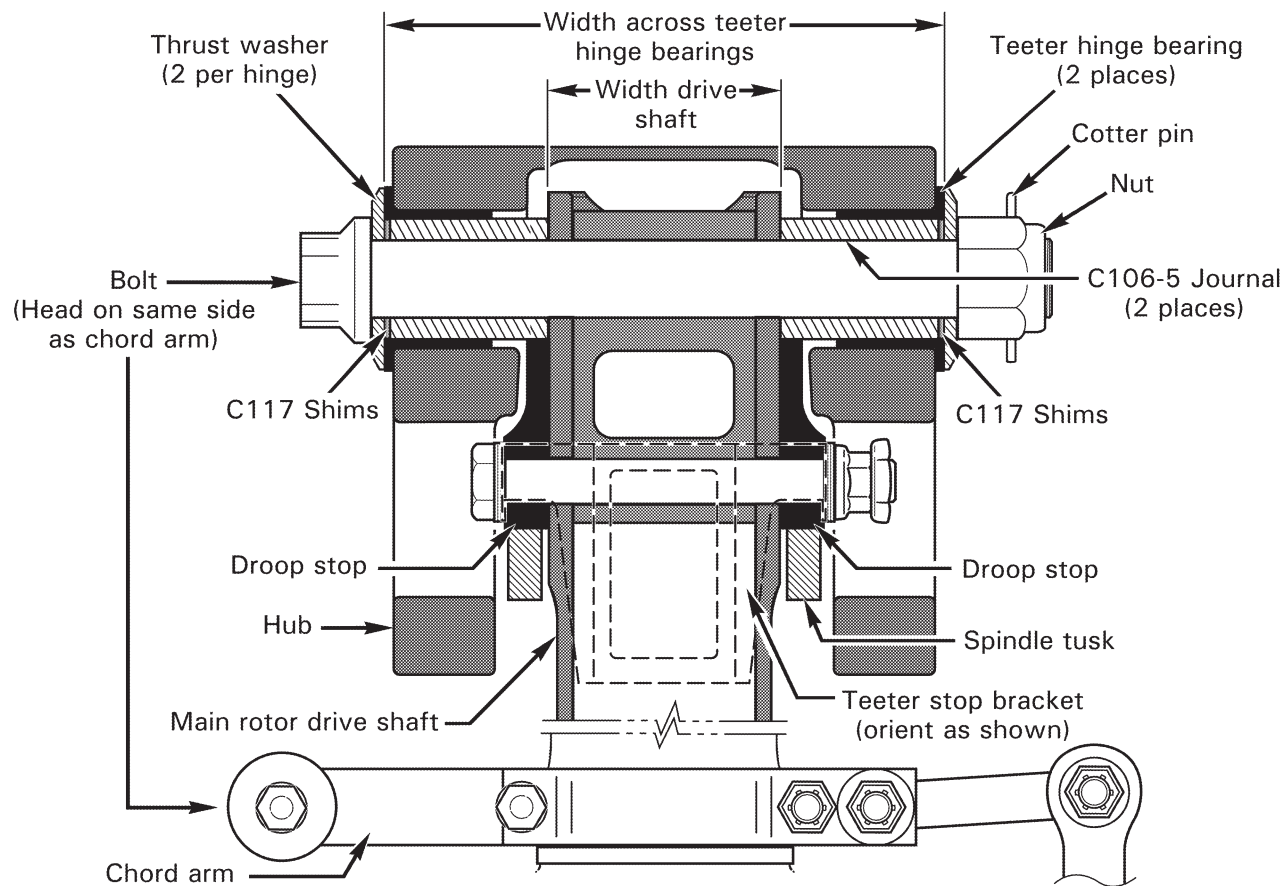

FIGURE 62-6A TEETER HINGE (HUB INSTALLATION)
2. Refer to Figure 62-6A. Mark rotor hub using a grease pencil or soft marker as follows:
3. Refer to Figure 62-6A. Reinstall teeter hinge bolt, thrust washers, shims, and journals exactly as removed. If previously installed information is unavailable, perform teeter hinge journal and shim calculation per § 62-31. Ensure journals fully contact drive shaft and do not pinch upper edge of droop stops.
Refer to Figures 62-6A and 62-6B.
2. Refer to Figure 62-6A and Table 62-1. Remove cotter pin, nut, thrust washer, and nut-side C117 shims. Adjust teeter hinge friction by changing nut-side shim stack thickness in small increments; reducing shim stack thickness increases friction, increasing shim stack thickness reduces friction. Install shims, thrust washer, and nut.